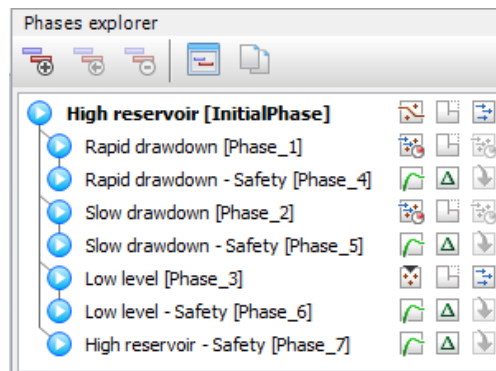

Figure 6.9 The final view of the *Phases explorer*
- Follow the same procedure for Phases 5 to 7. The final view of the *Phases explorer* is given in Figure 6.9.